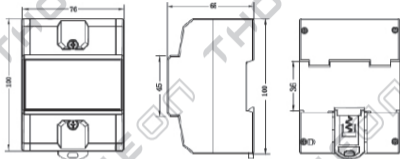

Figure 2
5.3 Installation dimension (Figure 2) mm